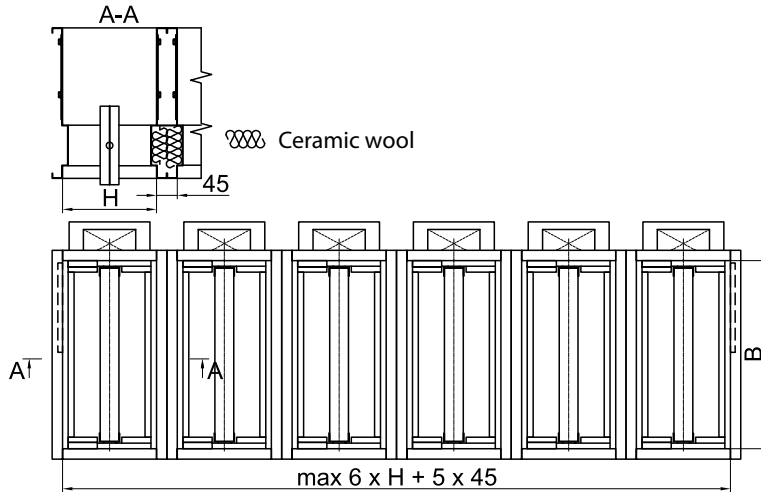

Fig. 7
- No Fig. 7 and 8 are shown two possible configurations.